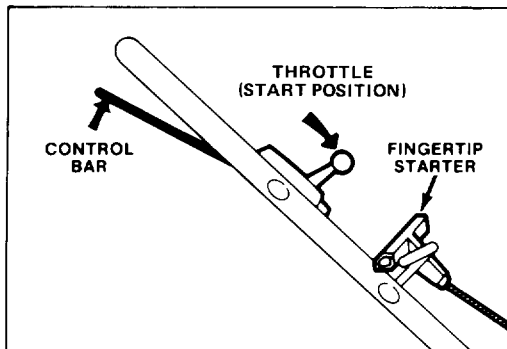
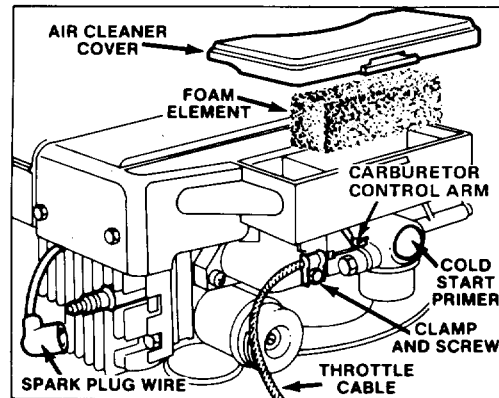

Figure 8
Figure 12
1. **CONTROLS** — Throttle, fingertip starter and blade control bar on upper handle (Fig. 8).
2. **STARTING** (Fig. 8) — Push wire onto spark plug (Fig. 12). Move throttle to FAST and squeeze control bar to handle. Pull fingertip starter and regulate throttle as desired when engine starts. If engine does not start after 2 or 3 pulls, wait 10 seconds for carburetor prime well to refill with gasoline.
Before starting engine when temperature is below 50 F (10 C), push cold start primer 5 times (Fig. 12), pausing 2 seconds between each push.
1. Stop engine and pull wire off spark plug (Fig. 12).
2. Lift off air cleaner cover and clean thoroughly (Fig. 12).
3. If top of foam element is dirty, remove it from air cleaner body (Fig. 12). Clean thoroughly.
2. Clean around spark plug and remove plug from cylinder head (Fig. 12).
1. Stop the engine and pull wire off the spark plug (Fig. 12).
4. Loosen cable clamp screw until throttle cable slides (Fig. 12). Move carburetor control arm as far to the left as possible. Pull throttle cable slightly to remove any slack and tighten cable clamp screw to lock adjustment in place.
1. Stop engine. Pull wire off spark plug (Fig. 12).